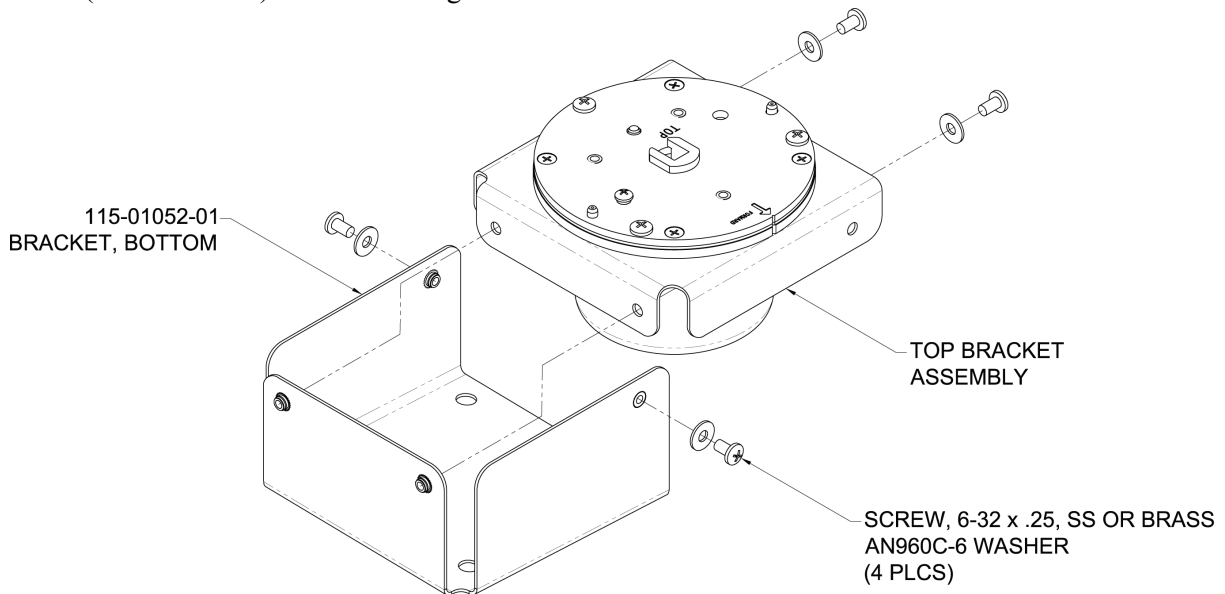

Figure C-6 Lancair IV/IV-P GMU 44 Mounting Bracket
3. Attach the Top Bracket Assembly (115-01052-00) to the Bottom Bracket Assembly (115-01052-01) as shown in Figure C-6.